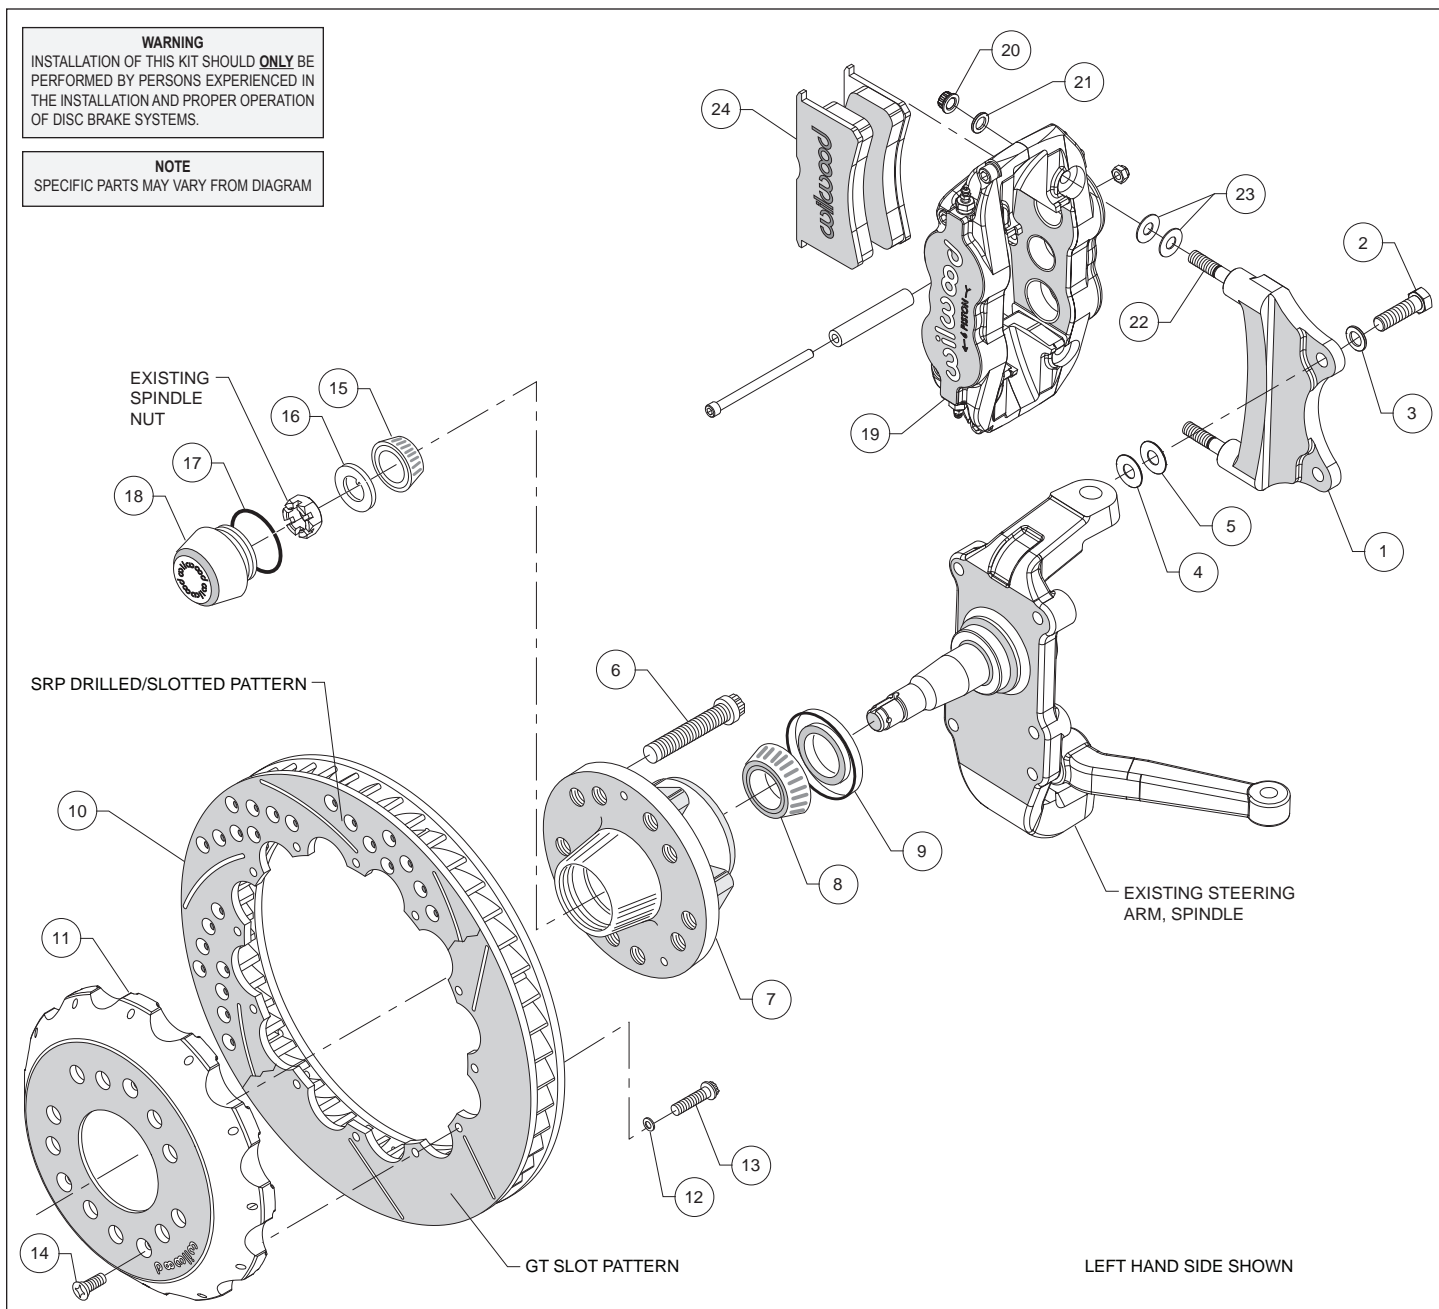
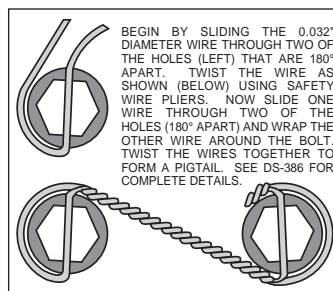

Figure 1. Typical Installation Configuration
Figure 3. Safety Wire Diagram
Assembly Instructions (numbers in parenthesis refer to the parts list on the preceding page, and Figure 1):
- The caliper mount bracket (1) should initially be installed with clean, dry threads on the mounting bolts. Orient the bracket as shown in Figure 1, and install using bolts (2) and washers (3). Initially place one each .016" thick shim (4) and .030" thick shim (5) on each bolt between the bracket and upright, Figure 1 and Photo 1. Temporarily tighten the mounting bolts. **NOTE: The bracket must fit squarely against the mount bosses on the upright.** Inspect for interference from casting irregularities, machining ridges, burrs, etc. Later, after the caliper alignment has been checked, the mount bolts will be secured using red *Loctite*[®] 271.
- Pack the large inner bearing cone (8) with high temperature disc brake bearing grease (available from your local auto parts store) and install into the backside of the hub (7), Photo 3.
- Install the grease seal (9) by pressing into the backside of the hub (7), flush with the end of the hub, Photo 3.
- Orient the rotor (10) and the hat (11) as shown in Figure 1 and Photo 4. Attach rotor to hat using bolts (13) and washers (12). Using an alternating sequence, apply red *Loctite*[®] 271 to the threads, and torque to 155 **in-lbs**. Safety wire bolts using standard 0.032 inch diameter stainless steel safety wire as shown in Figure 3. Refer to Wilwood's data sheet DS-386 (available at www.wilwood.com/Pdf/DataSheets/ds386.pdf) for complete safety wire installation instructions.
•Slide the hat/rotor assembly (10/11) onto the hub (7) taking care to align the small countersunk holes in the hat (11) with the small threaded holes in the hub. **NOTE:** The hat must fit flush against the hub face or excessive rotor run out may result. Install three flat head screws (14) through the small holes in the hat (11), Photo 6, and torque to 85 in-lb.
•**NOTE:** This kit contains distinct right and left hand calipers that must be mounted in a specific direction, as described below. Lubricate the caliper mounting studs (22) with lightweight oil. Initially place two .035" thick shims (23) on each stud between the caliper and the bracket, as shown in Figure 1 and Photo 7. Mount the caliper (19) onto the bracket (1) using lock nuts (20) and washers (21), Figure 1. Ensure that the caliper is mounted so the largest pistons are at the rotor exit end of the caliper, in relation to the direction of rotor rotation. Temporarily tighten the lock nuts and view the rotor through the top opening of the caliper. The rotor should be centered in the caliper, Photo 8. If not, adjust by adding or subtracting shims (4 and/or 5) between the bracket and the upright. Always use the same amount of shims on each of the two mounting bolts. Once the caliper alignment is correct, remove the bracket mounting bolts one at a time, apply red *Loctite*[®] 271 to the threads, and torque to 55 ft-lb.